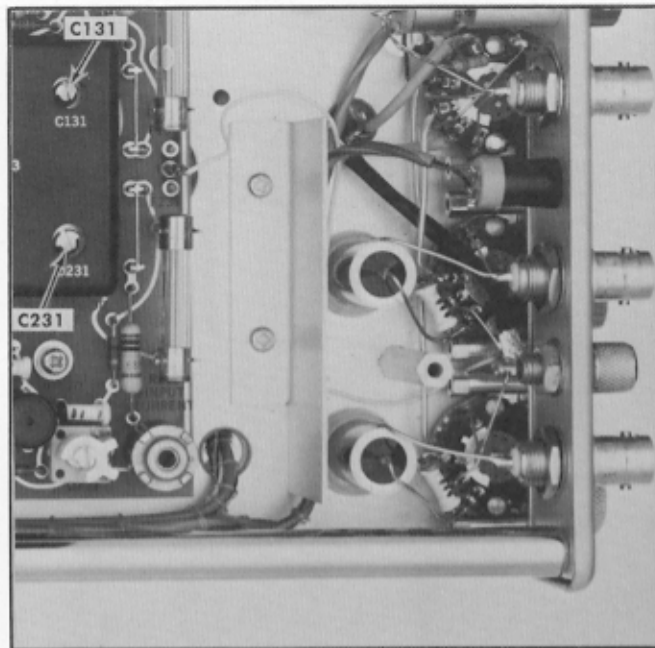

Fig. 5-13. Location of C131 and C231.
h. ADJUST—C131 (see Fig. 5-13) for minimum aberration on the upper leading corner of the waveform.
13. Check or Adjust Cross Neutralization (C231) ①
f. ADJUST—C231 (see Fig. 5-13) for minimum aberration on the bottom leading corner of the waveform.